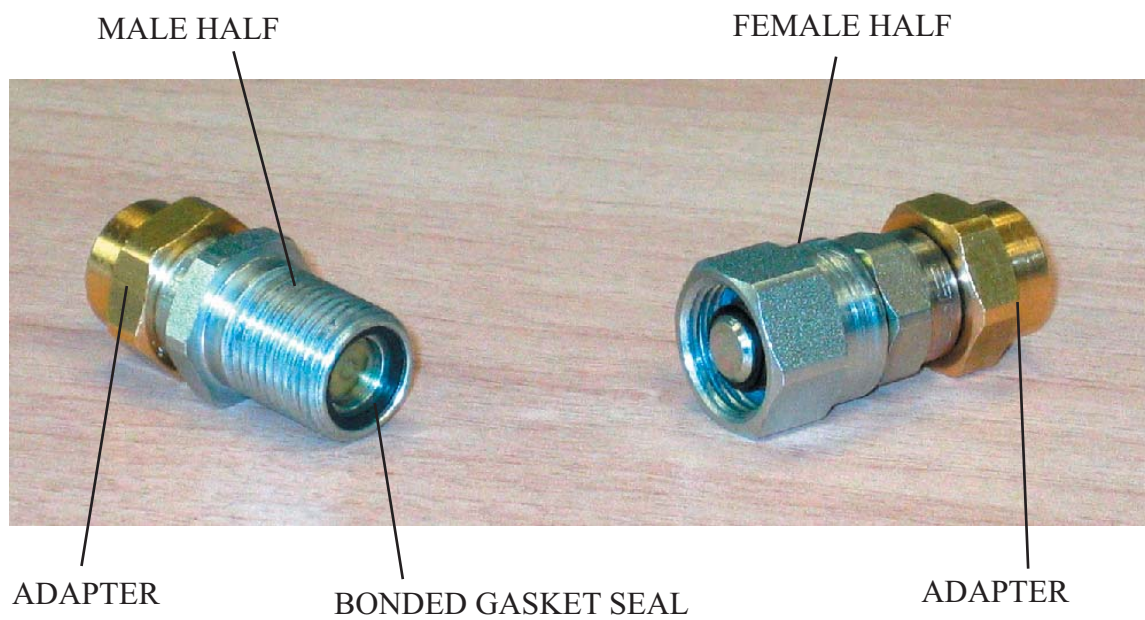

Figure 9: Male and Female Self-Sealing Couplings
4. Remove the gas coupling dust caps and verify that the couplings are free from dirt and debris. If any debris is found, wipe until clean, or use a solvent on a clean, lint-free cloth to remove the debris. (Use only methanol, ethyl alcohol or de-natured alcohol.) Allow the solvent to fully evaporate before connecting the gas lines to the equipment. Verify that the male coupling has the gasket seal (Figure 9) installed in the body and the gasket seal is not damaged.